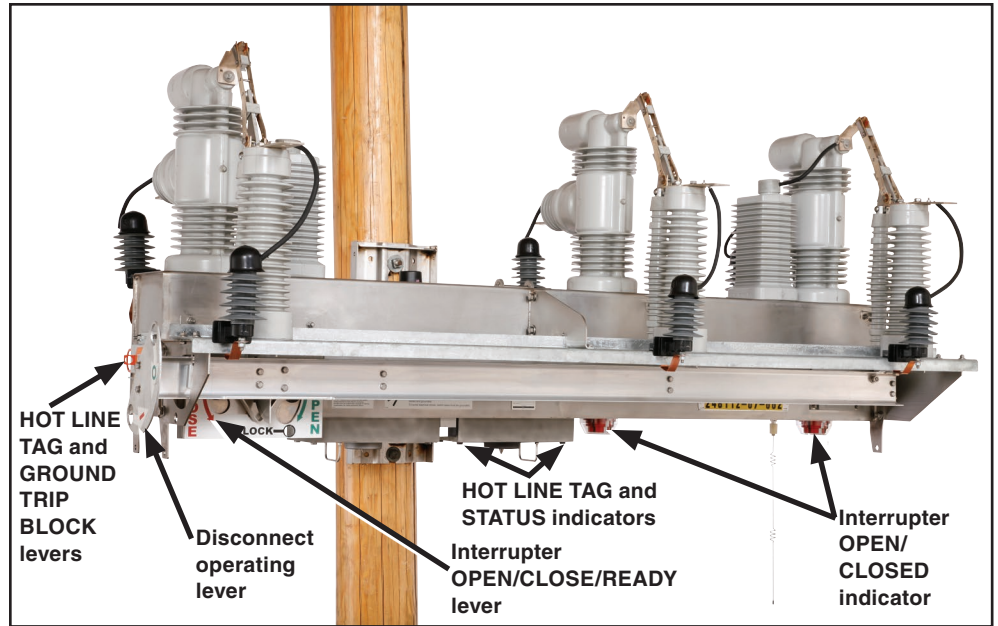
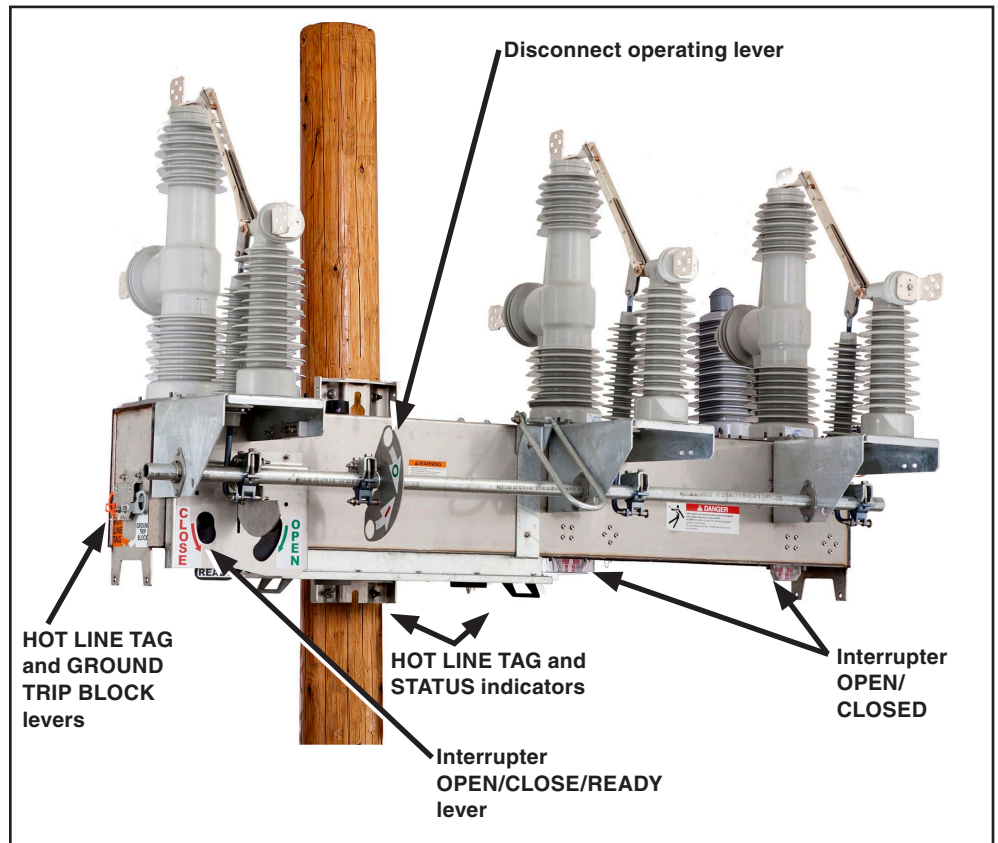

Figure 1. The 15.5-kV and 27-kV IntelliRupter fault interrupter operating levers and indicators.
Figure 2. The 38-kV IntelliRupter fault interrupter operating levers and indicators.
**Operating Levers**—Hookstick-operated levers are provided for manually opening and closing the interrupters and for applying and removing a hot line tag. A separate lever, if provided, blocks tripping on ground overcurrent elements. The integrated disconnect on disconnect-style models is also hookstick-operated. See Figure 1 on page 7 and Figure 2 on page 7.